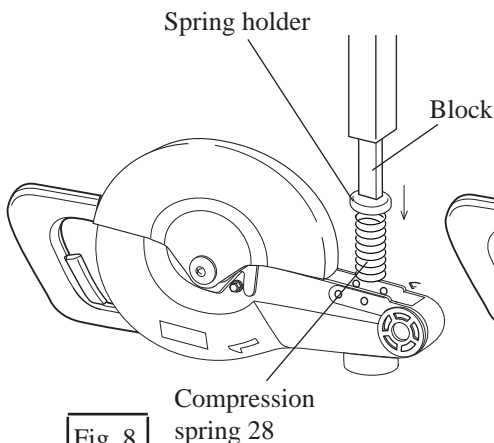

Fig. 8.
- (1) Insert compression spring 28 into the cylindric hole of blade case and put spring holder on the compression spring 28. And then, put the block on the spring holder. See Fig. 8.